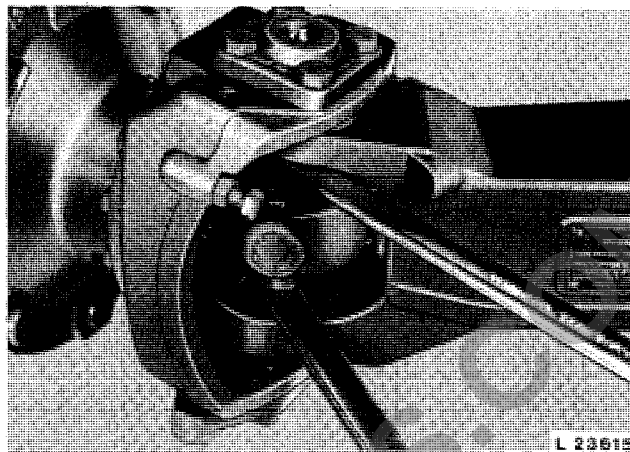

Fig. 57 — Checking Radial Play of Drive Shaft
14. Using two suitable levers, check radial and axial play of drive shaft with knuckle housings turned as during steering (see fig. 57).